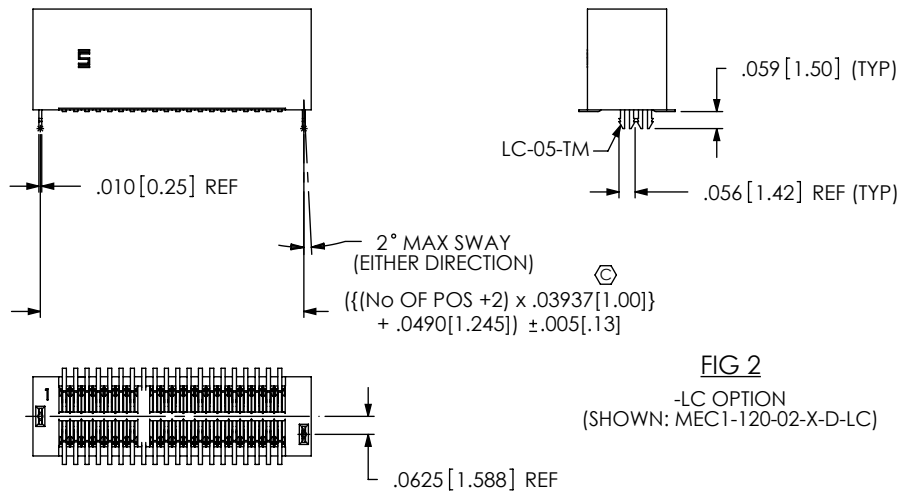

FIG 2
- LC: LOCKING CLIP (SEE NOTE 8) (SEE FIG 2) (USE LC-05-TM)